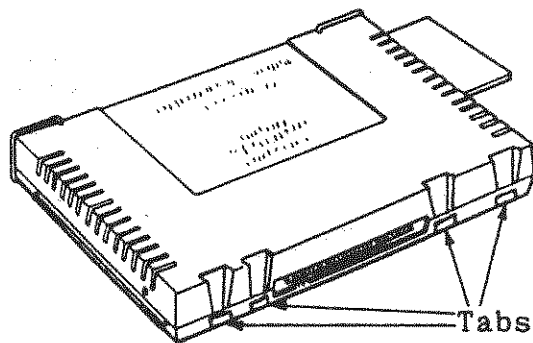
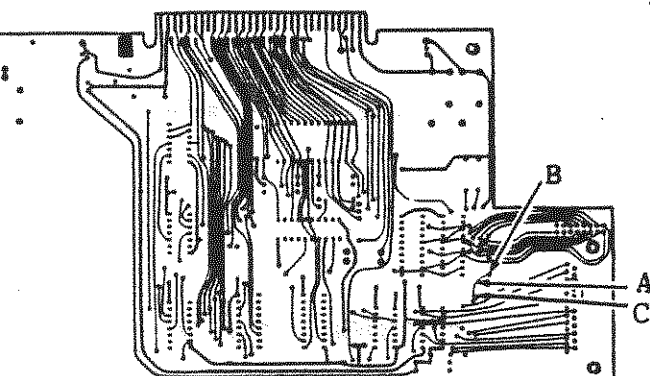

Figure 1
Figure 2
Proceed by pulling the RS232 interface card out of the PE box, follow all the safety precautions as described with your equipment. Before you proceed any further remember that static electricity can damage some semiconductor devices. Drain off any electrostatic charge from your body by touching a known earth ground. Make sure that your work area is free from any static electricity. As an added protection wear a discharge wrist strap device. Now locate the four plastic tabs at the bottom (card edge side) of your RS232, (see figure 1). Gently press in each of the four tabs while carefully prying the two halves apart. Once you have the card open remove the circuit board and place it on your work surface, component side down. The card edge should be away from you with the plug side to your right, (see figure 2). Locate the boomerang shaped foil track in the lower right corner of the card, (see (A) figure 2). With your sharp object scrape a path through the foil track to cut the continuity between points B & C, (see figure 2). Your last step is to solder the one/quarter watt, 100 OHM resistor between points B & C, (see figure 3), turn the card over and cut the excess wire from the resistor. Now reassemble your card and the modification is complete.